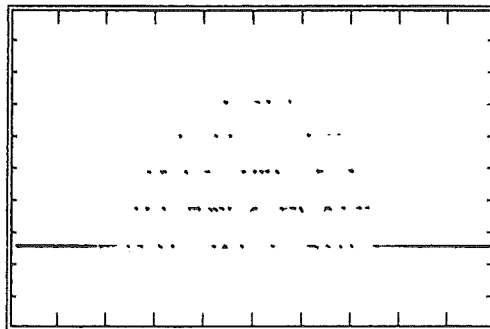

Figure 6-A
** Use the procedures learned above to adjust the pulse as shown in Figure 6-A below. Note the settings as you will be asked to return to this display later. There should be only a few counts in the fourth level. Call this the Training Reference Pulse (TRP).